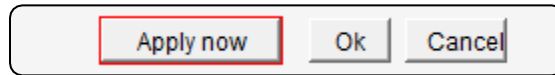

Figure 3-13. Email Schedule Dialog Box (Excerpt) – Buttons
3. When the Email Schedule dialog box (Figure 3-9) has been configured, use buttons provided (Figure 3-13) to apply updates (**Ok**) or exit the screen as follows (Table 3-5).